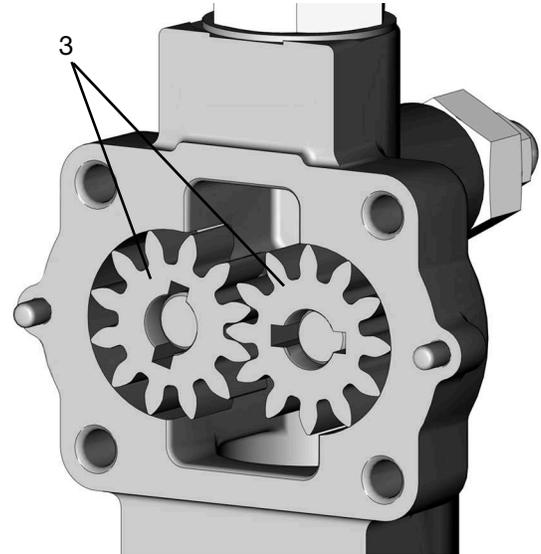

FIG. 27
17. Remove the o-ring (5) (FIG. 27).
18. Remove both of the pump gears (3) (FIG. 27).
19. Inspect the pump cavity and pump gears (3) for damage or excessive wear. If there is damage or
wear, replace the pump housing assembly. If neither is present, clean the pump cavity and gears (3) (FIG. 27).
1. Place the pump gears (3) into the pump cavity, making sure that they spin freely (FIG. 27).